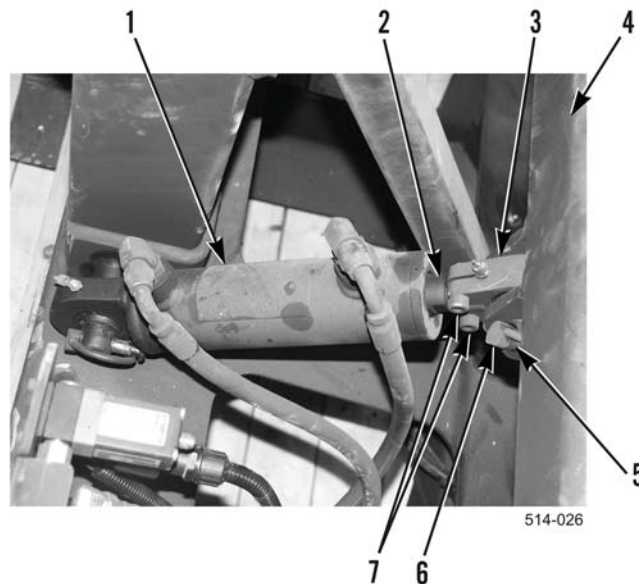

Figure 2. Stowage Cylinder Rod End Adjustment.
3. Remove snap ring pin (Figure 2, Item 6), retaining pin (Figure 2, Item 5), and stowage cylinder (Figure 2, Item 1) from capture frame (Figure 2, Item 4).
4. Loosen two bolts (Figure 2, Item 7) on cylinder rod end (Figure 2, Item 3).
5. Hold cylinder shaft (Figure 2, Item 2) in place, and loosen cylinder rod end (Figure 2, Item 3) to desired position.
6. Tighten two bolts (Figure 2, Item 7) on cylinder rod end (Figure 2, Item 3).
7. Install stowage cylinder (Figure 2, Item 1), retaining pin (Figure 2, Item 5), and snap ring pin (Figure 2, Item 6), on capture frame (Figure 2, Item 4).